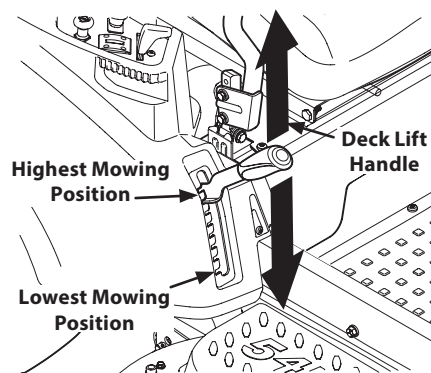

Figure 4-9
- a. Using the deck lift handle, raise the deck to the position that provides the most horizontal run of the belt between the deck idler pulleys and the PTO pulley on the bottom of the engine. See Figure 4-9.
- d. Lower the deck into the lowest mowing position using the deck lift handle. See Figure 4-9.
- e. Lower the deck into the lowest mowing position using the deck lift handle. See Figure 4-9.
8. Place the deck lift handle into the highest mowing position and slide the deck out from beneath the tractor. See Figure 4-9.
1. Place the deck lift handle in the highest mowing position. See Figure 4-9.